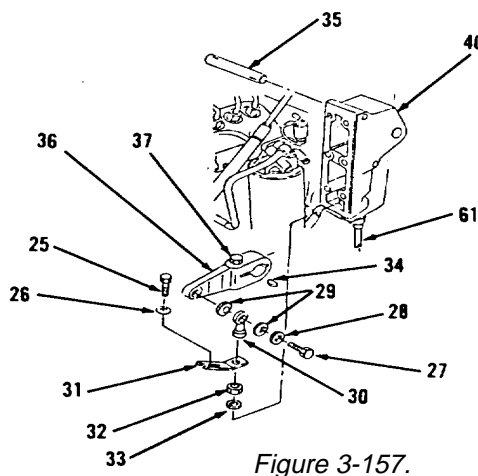
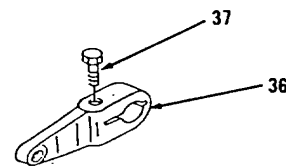

Figure 3-157.
Figure 3-158.
23. Remove bolt (25) and nut (26) from actuator (31, Figure 3-157).
24. Remove bolt (27), washer (28) and two springs (29).
25. Separate rod end (30) and lever (36).
26. Loosen nut (32).
27. Remove rod end (30), actuator (31) and nut (32) from cable (61).
28. Remove nut (33) from inside of housing (40).
29. Loosen bolt (37).
30. Move lever (36) on shaft (35) to expose key (34). Remove key (34) from shaft (35).
31. Remove shaft (35).
32. Remove items 36 and 37 as an assembly from housing (40).
33. Remove bolt (37) from lever (36, Figure 3-158).